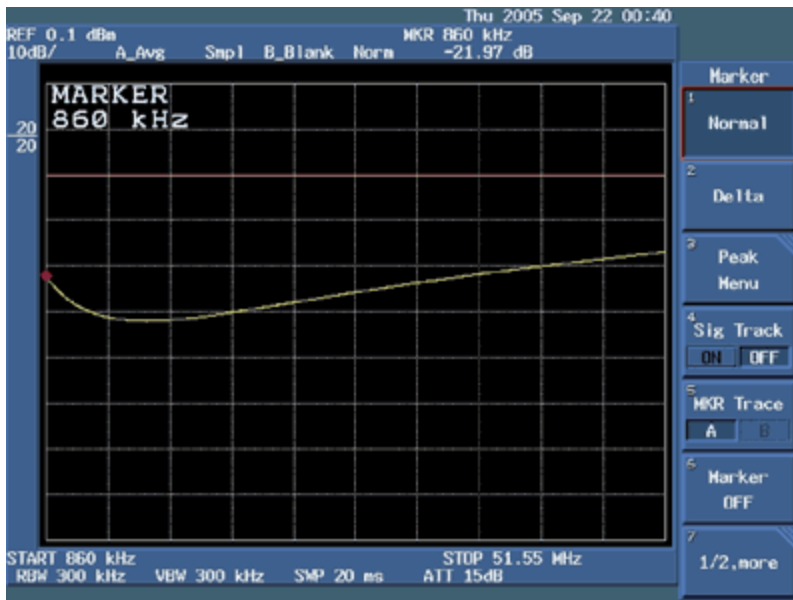

Figure 10. Return loss of the DUT at 860kHz.
8. Measure the return loss at **860kHz** for the DUT, as shown in **Figure 10**.